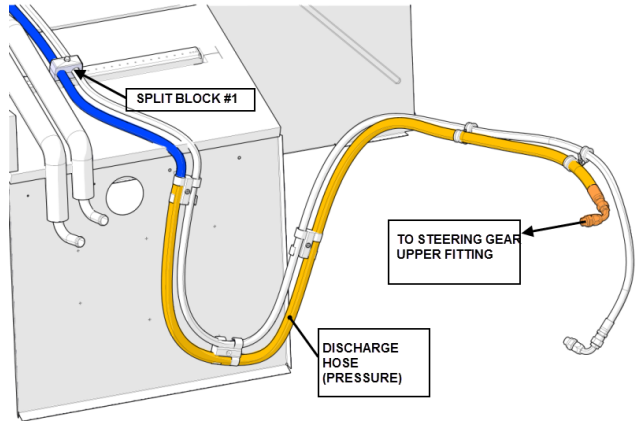

FIGURE 3
- In the spare wheel compartment, it is wrapped in a yellow sheath and is connected to the top of the steering box (fig. 3).